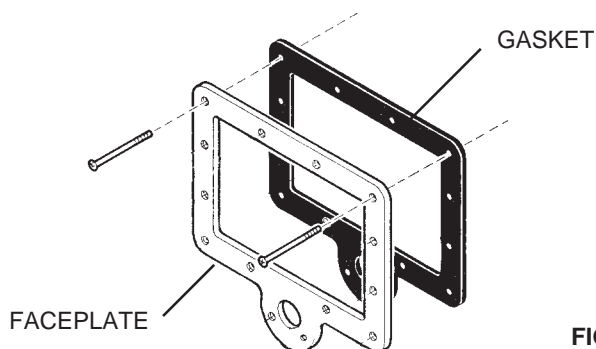

FIG. 2
4. Place one skimmer gasket (provided with the skimmer) on the skimmer faceplate. Insert two of the long, self-threading screws provided with this extension into the top corner holes (first through the faceplate, then the gasket, see Fig. 2). These screws must protrude through the top corner holes of the gasket. Next, from the inside of the pool, carefully push the screws through the holes which have been pierced in the liner.